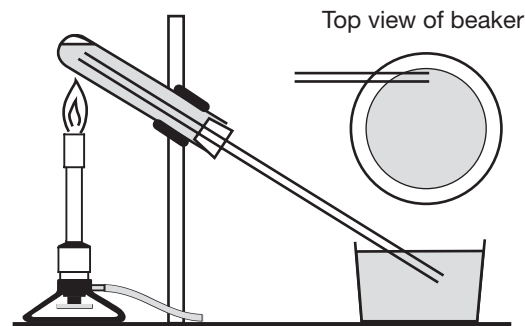

Figure 3.
2. Clamp the test tube at an angle with the stopper-side down (towards the tabletop) and secure the clamp to a ring stand. Adjust the height of the test tube so that a Bunsen burner will fit underneath the rounded end (see Figure 3) and the tubing extends into the 1-L beaker.